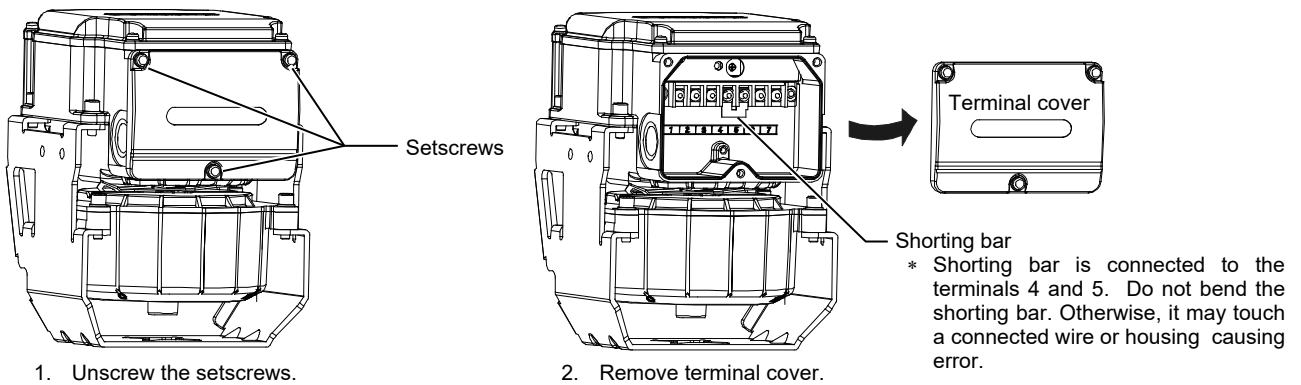

Figure 8. Terminal cover removal
- 2) Unscrew the 3 setscrews ($M4 \times 10$) of the terminal cover and remove the terminal cover, as shown in Fig. 8.
- 1) Unscrew the setscrews and remove the terminal cover. See Fig. 8 for removing the terminal cover.